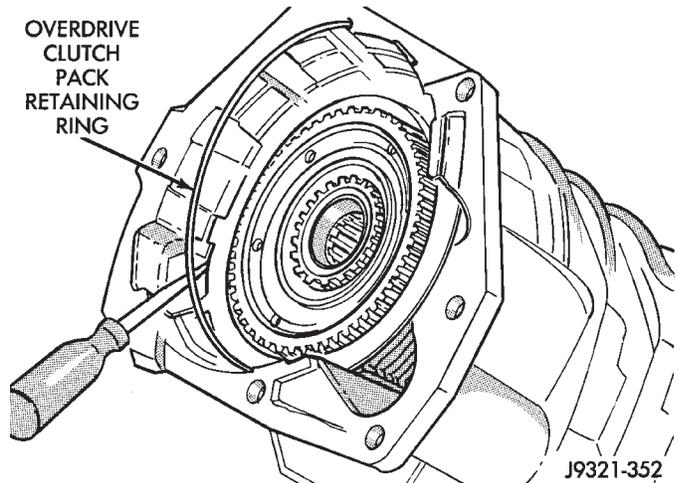

Fig. 261 Overdrive Clutch Pack Retaining Ring Installation
- (4) Install overdrive clutch reaction plate first.
- (5) Install first clutch disc followed by first clutch plate. Then install remaining clutch discs and plates in same order.
- (6) Install clutch pack pressure plate.
- (7) Install clutch pack wire-type retaining ring (Fig. 261).